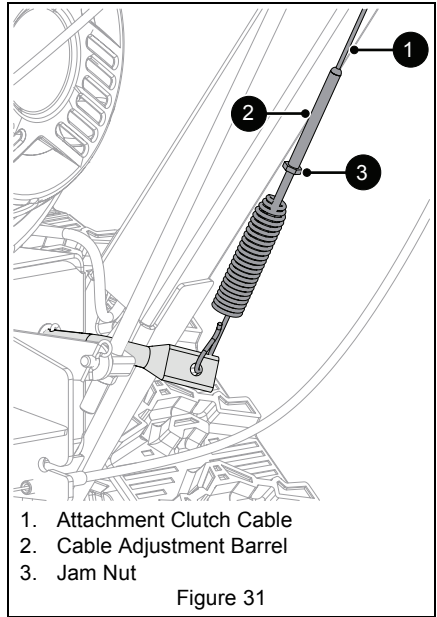

Figure 31
4. Loosen jam nut on cable adjustment barrel, and then turn the adjustment barrel down to shorten cable and remove cable slack. See Figure 31.
6. Tighten jam nut on cable adjustment barrel. See Figure 31.